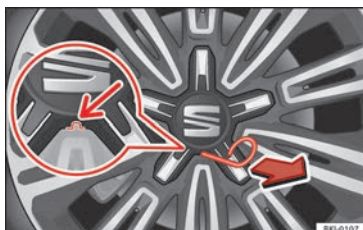

Fig. 77 Removing the central wheel trim.
- Attach the wire hook (vehicle tools » Fig. 75 ⑥) to the housing provided for this » Fig. 77.
- Pull on it to remove the trim » Fig. 77.